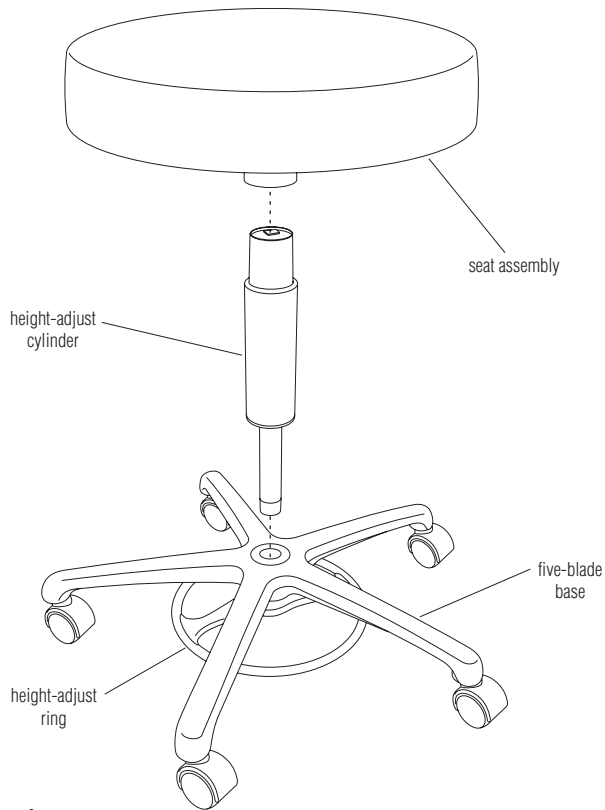
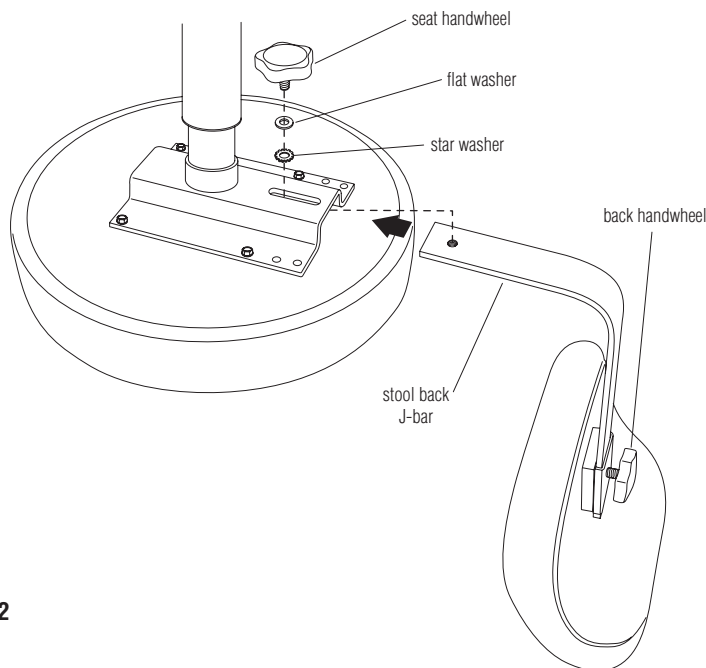

Figure 1
Figure 2
1. Carefully unpack all contents and place five-blade base onto floor. Press the smaller end of the height-adjust cylinder into the center hole of the five-blade base (Figure 1).
2. Align the hole in the bottom of the seat with the top of the height-adjust cylinder and press the seat assembly down firmly. Sit on the seat to completely drive the components together. Failure to do so could result in personal injury (Figure 1).
3. To install stool back, carefully turn seat/base assembly upside down on a clean elevated surface, such as a table top. Slide the J-bar of the stool back into the base of the stool (Figure 2).
4. Insert flat washer and star washer onto seat handwheel and insert threads of handwheel through slot in seat base, then thread into J-bar. Adjust to desired location and tighten seat handwheel (Figure 2).
To adjust vertical height of seat, while sitting on stool use foot to press on height-adjust ring (Figure 1), then release weight or increase weight on seat to adjust height. To adjust vertical position of stool-back, loosen back handwheel, slide stool back to desired location and re-tighten back handwheel (Figure 2). To adjust stool back horizontal location, loosen seat handwheel at stool back, adjust location and re-tighten (Figure 2).